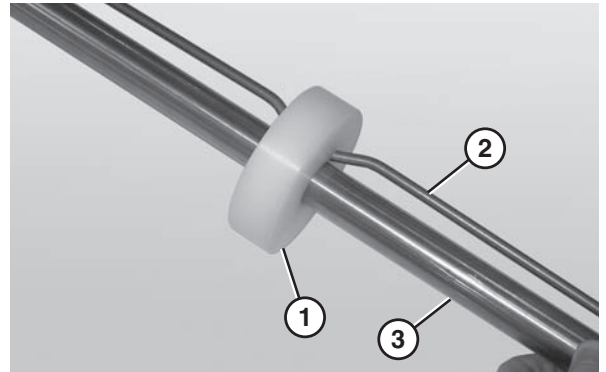

Figure 82
1. Place the idler puck (Figure 82, item 1) at the center of the bent retaining bar (Figure 82, item 2).
2. Slide the idler puck onto the idler shaft (Figure 82, item 3). Make sure to center the idler puck.